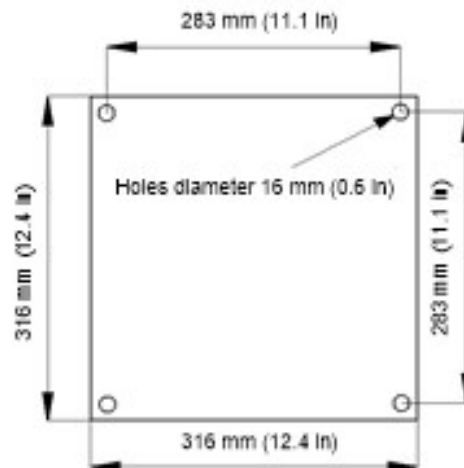

FIGURE 4-1. Mounting base footprint
Mount the SkyVUE 8 by bolting to a firm, level foundation. When bolting down, ensure the SkyVUE 8 can tilt in all desired directions. FIGURE 4-1 (p. 16) shows the mounting footprint. If a suitable surface does not already exist, construct a concrete foundation, at least 600 mm (23.6 in) square and 600 mm (23.6 in) deep, by using the following procedure:
1. Drill four 12 mm (0.47 in) diameter holes using the mount base as a template (see FIGURE 4-1 (p. 16)) to a depth of 77 mm (3.03 in).